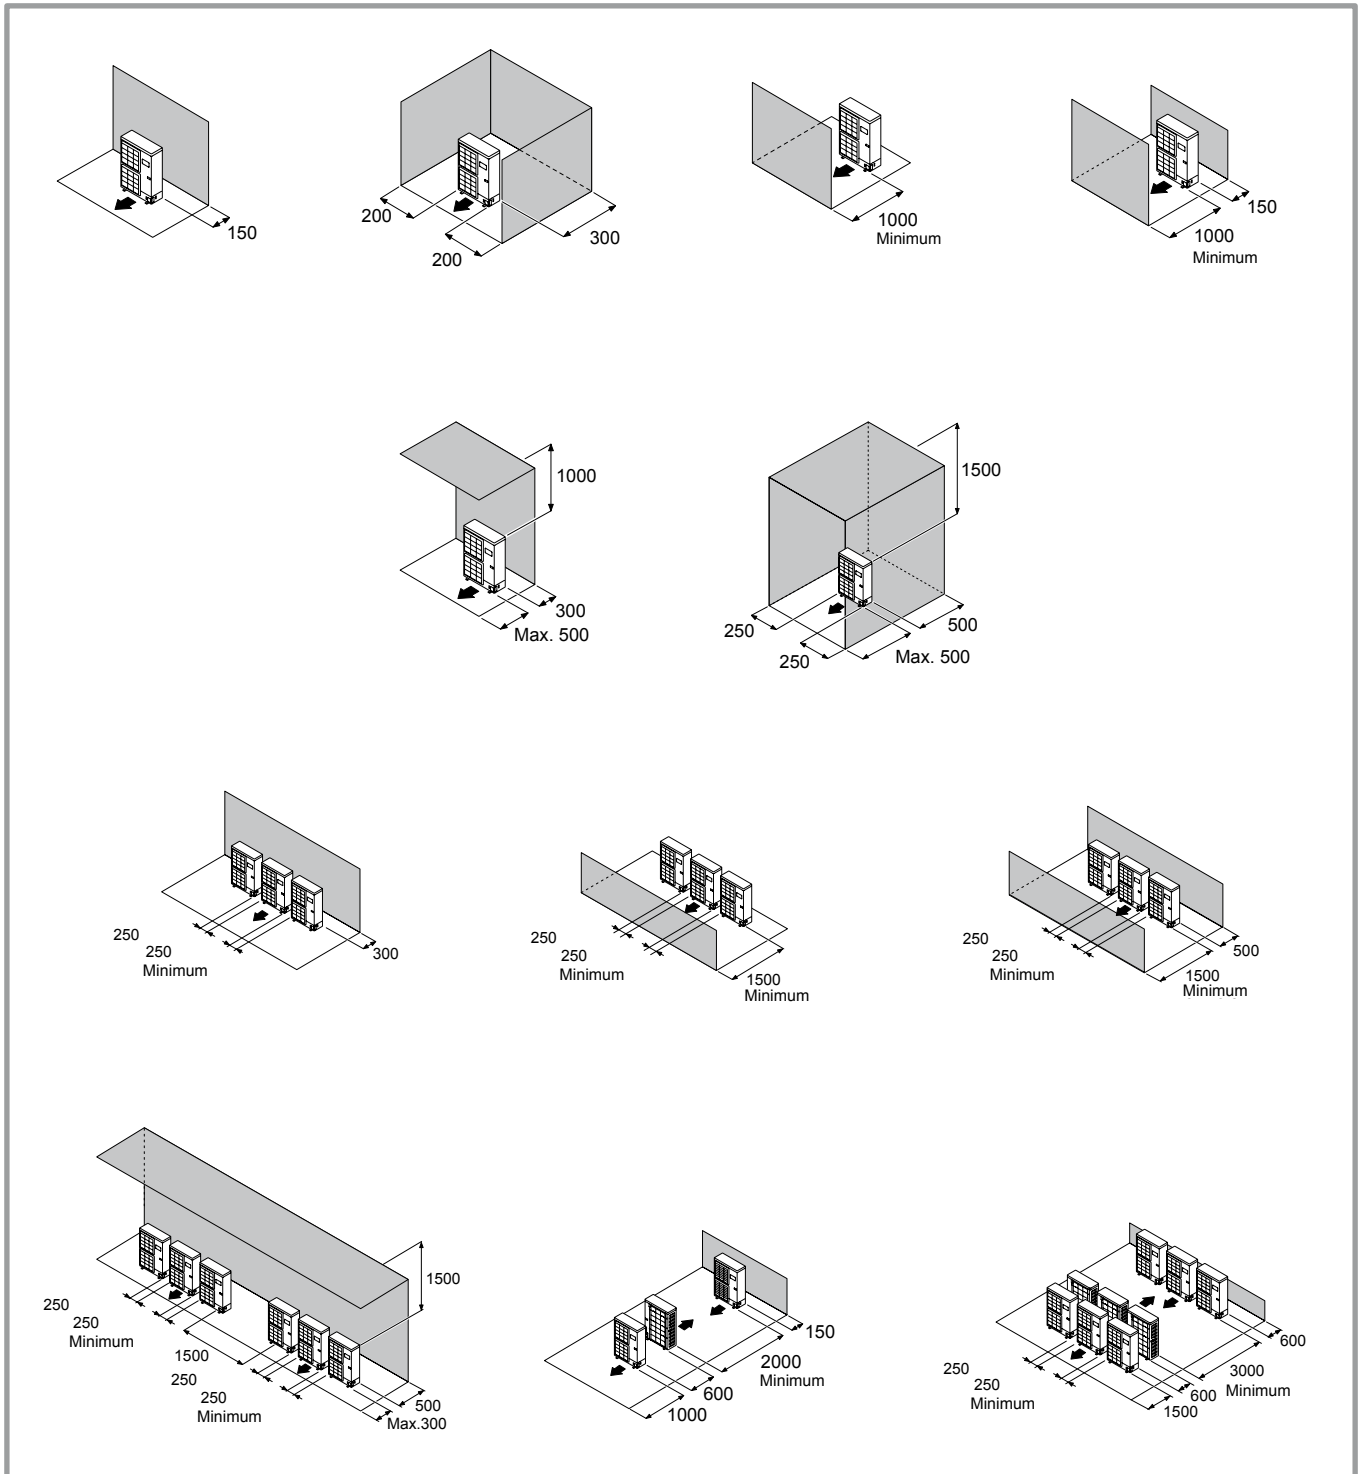

figure 11 - Minimum installation clearances around outside unit (all models)
☞ **The outdoor unit must only be installed outdoor (outdoors). If a shelter is required, it must have broad openings on the 4 walls and observe the installation clearances (figure 11).**
- Nothing should obstruct the air circulation through the evaporator and from the fan (**figure 11**).